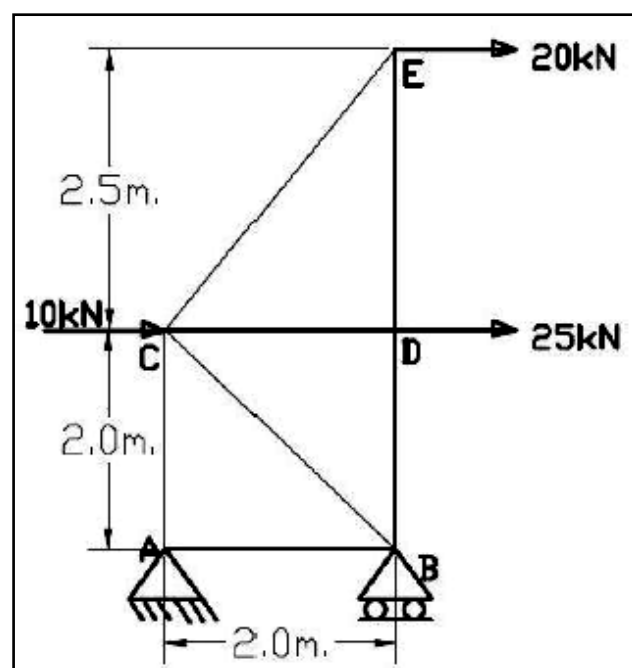

Fig.7
7. (a) Evaluate the member forces in the truss as shown Fig.7 using Method of Joints.